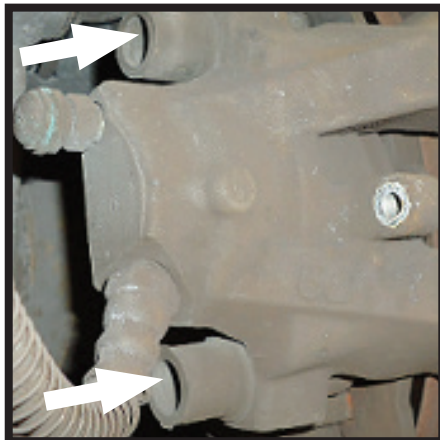

FIGURA 7
8. AFLOJE LOS DOS (2) PERNOS DE LA PARTE POSTERIOR DE LA PINZA DE FRENO. (FIGURA 7)